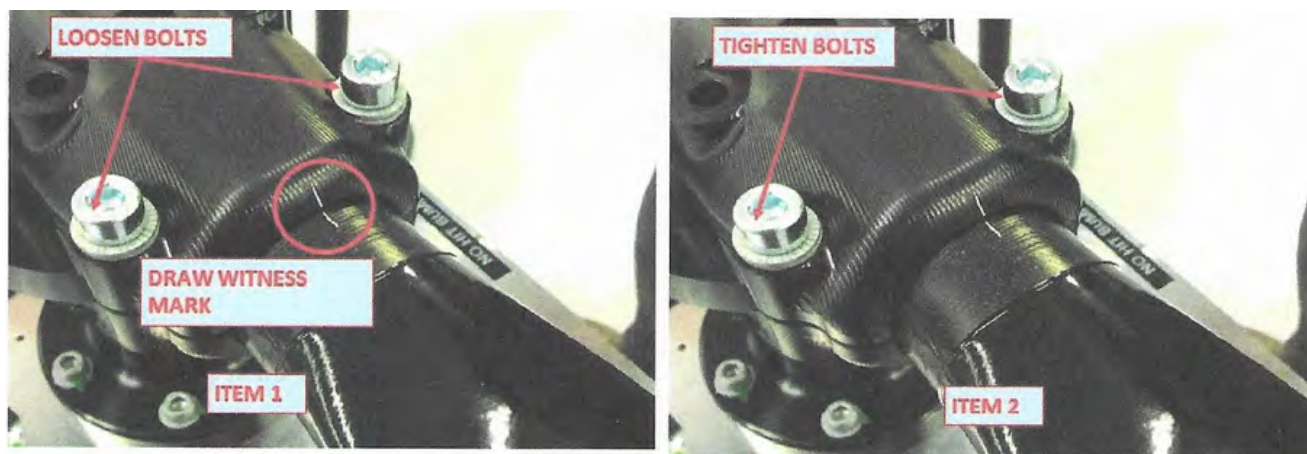

FIGURE 17-69
8. Using a fine tip silver marker, draw small witness mark across the blade/hub interface as shown and loosen the bolt. See Figure 17-69.